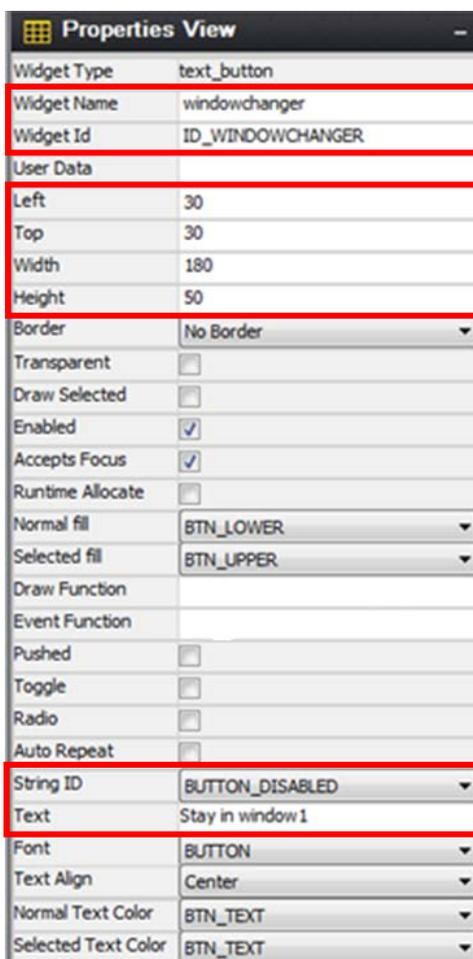

Figure 84 Configure Windowchanger Button Properties
- 32. In the Project View under window1, click on button then modify the properties (Properties View) to match Figure 84.